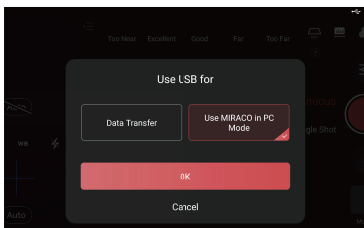

Figure 1
**Step 4:** Select [Use MIRACO in PC Mode] and tap [OK], see Figure 1.